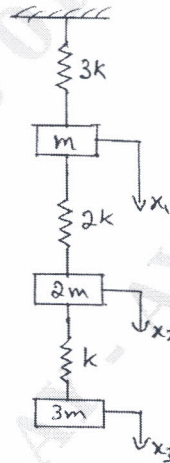

Fig.Q.10(b)
- b. Using Stodola's method, determine the fundamental mode of vibration and its natural frequency of the spring mass system shown in Fig.Q.10(b). (12 Marks)